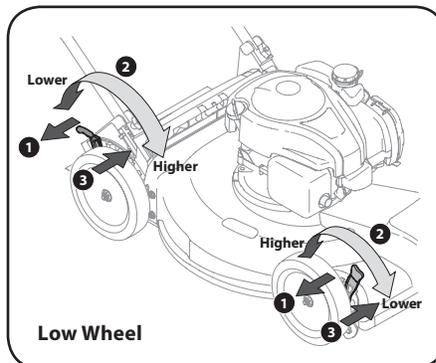
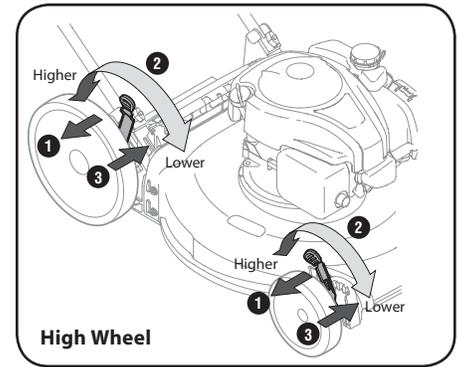

Figure 2-10
Figure 2-11
2. Move lever to desired position for a change in cutting height. See Figure 2-10 for low wheel and Figure 2-11 for high wheel.
3. Release lever towards deck. See Figure 2-10 and Figure 2-11.